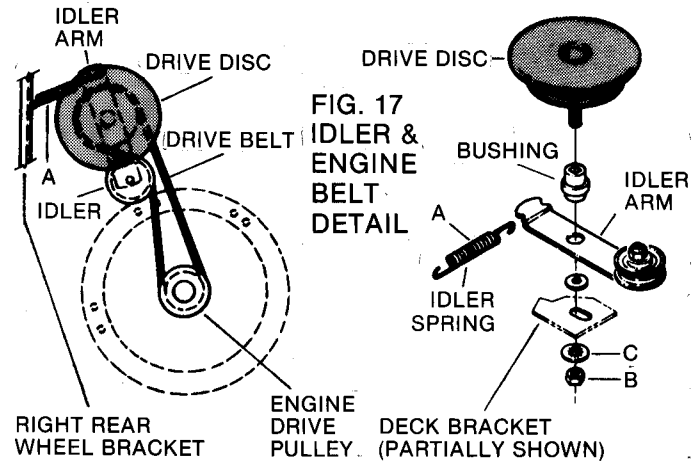

FIG. 17
Unhook the idler arm spring (A) from the right rear wheel bracket and remove the driven disc assembly as described in the DRIVEN DISC section. Tilt the mower up on its RIGHT wheels and remove the cutting blade and hub. Then remove the drive disc retaining nut (B) and internal tooth lockwasher (C). Lift the drive disc up from its position on the idler arm and remove worn belt. Loop one end of replacement belt over engine drive pulley and insert other end through deck opening. Loop the belt around driven pulley (on the lower portion of drive disc) and lower disc back into position on idler arm (with the idler AGAINST the engine belt - when idler arm spring (A) is re-installed). Refer to FIG. 17.